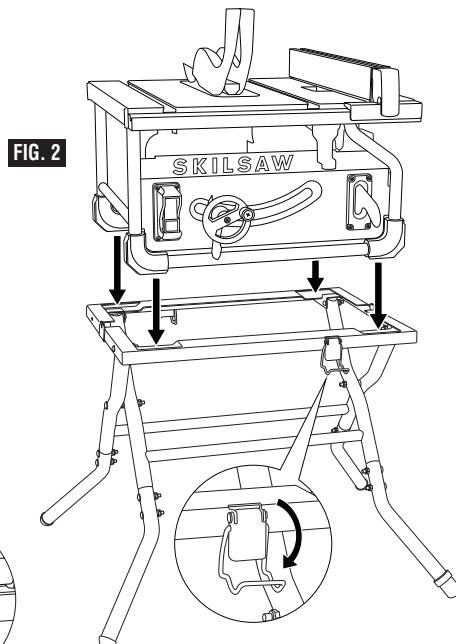

FIG. 2
1. Unfold stand to open position and flip over clip on each side of table, as depicted in figure 2.
2. Place table saw onto the stand so that the feet rest in the indentations on the stand (Fig. 2). Make sure the saw base lines up evenly with the edge of the stand.